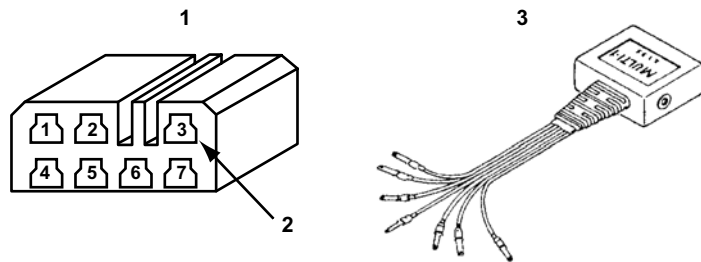

Figure 15-15 7-pin Check connector
- Connect the blue wire of the MULTI-1 adapter to pin 3 of the Check connector (Figure 15-15). Use the ground extension on the MULTI-1 black wire.